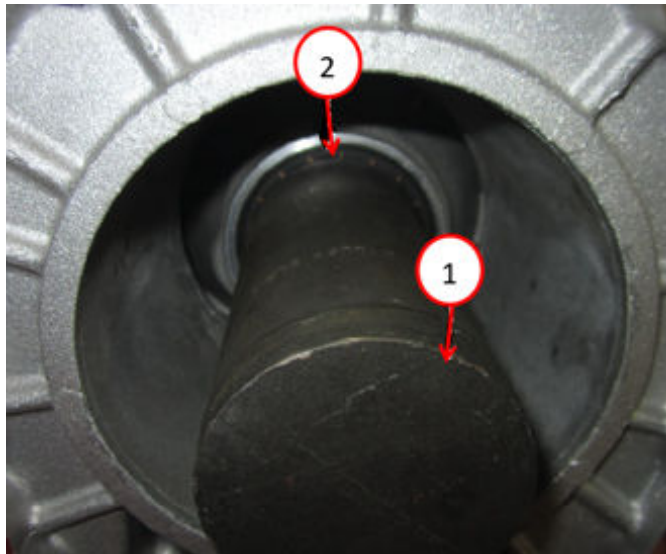

**Fig. 51**
75. Position the **NEW** output shaft seal over the output shaft and against the transmission case Fig. 51.